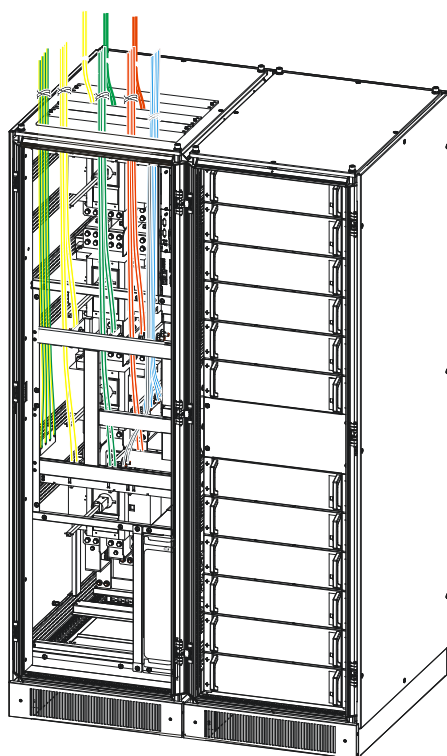
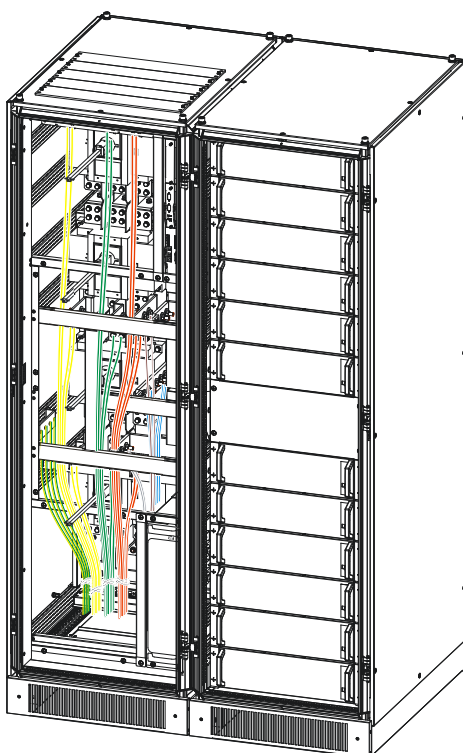

Figure3-35 Wiring diagram of distribution cabinet(Top wiring)
Figure3-36 Wiring diagram of distribution cabinet(Bottom wiring)
- Step 4 After wiring, fasten the cables to corresponding epoxy plate by cable tie (as shown in Figure3-35, Figure3-36), and install the wiring cover plate again, and then install the handle of switch. The wiring is finished.